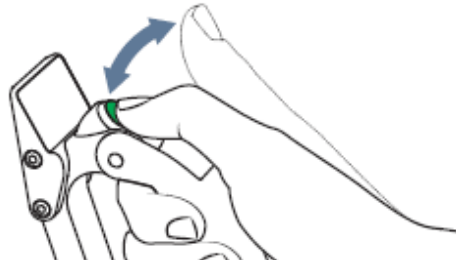

Figure 5: Audio Reset
- If functioning correctly, the noise cancelling procedure will commence with 2 single beeps followed by 45 seconds of sharp triple (3) beeps and finish with 4 single beeps.
- Whilst there is a detection tone, press and **immediately release** the green audio reset button. (Figure 5)
- Within two (2) seconds, the detector should return to its correct quiet sound level.